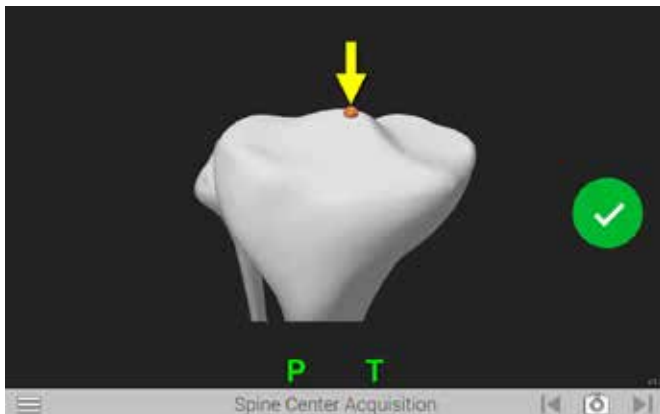

Figure 34
The Tibial Center Acquisition screen is displayed (Figure 34). Position the tip of the Probe Tracker (P) on the center of the